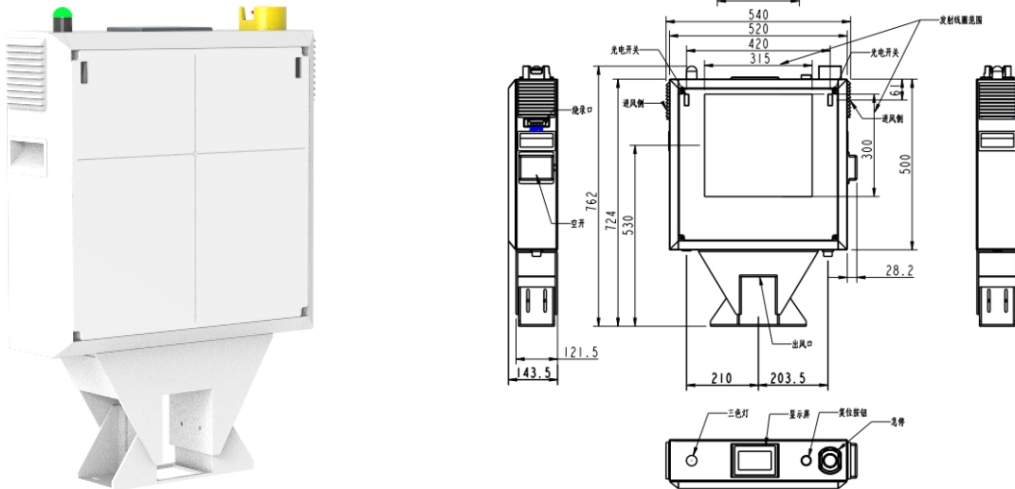

Fig 8. Installation of the transmission unit (dimensions in mm)
- They should not stay within the marked zone shown in Figure 8 during charging process.